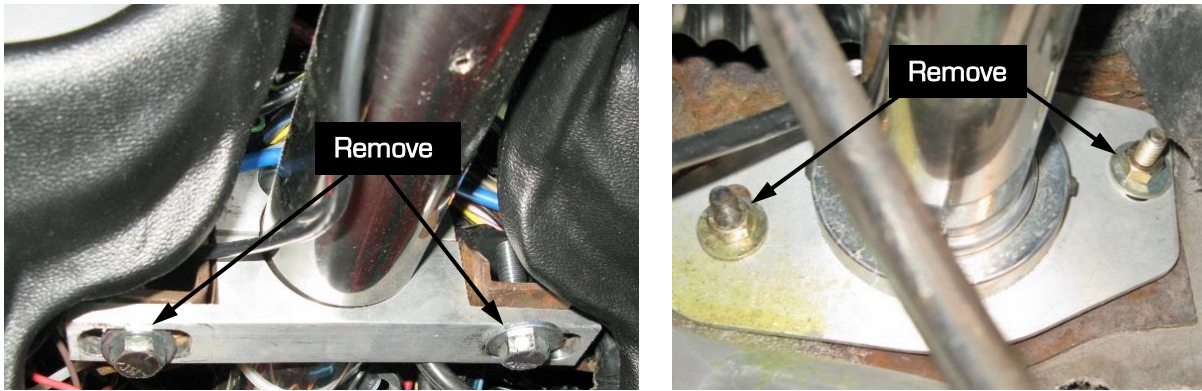

Figure 18 - Remove Steering Column Hardware
26. Remove the 2 bolts holding the steering column to the support brace, Remove the 2 carriage bolts from the lower part of the column (Figure 18 on the next page). **NOTE:** The steering column used in the pictures below is from an aftermarket column.